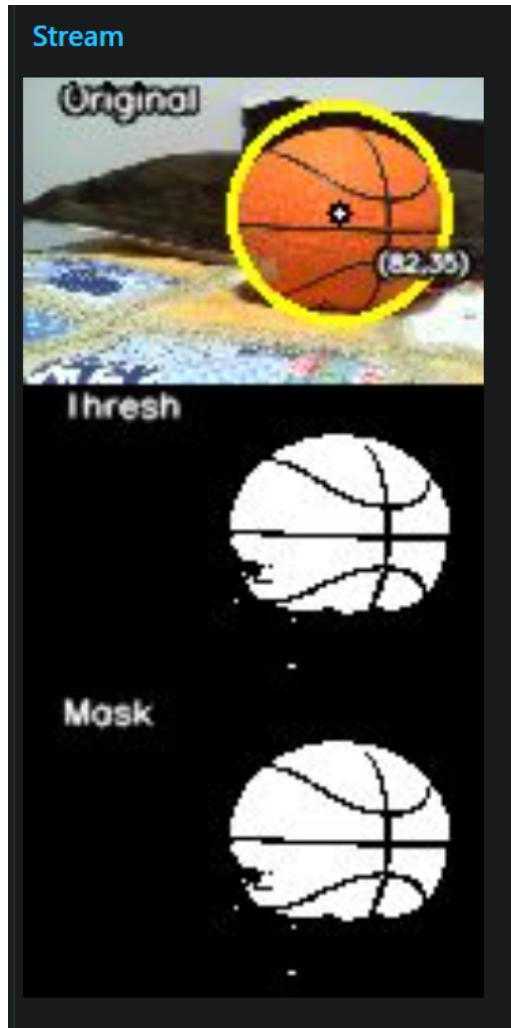

Figure 3 – Good Mask Result
3. Once the output looks like the one in Figure 3, **record the HSV range you have selected and take screenshots for your lab report**